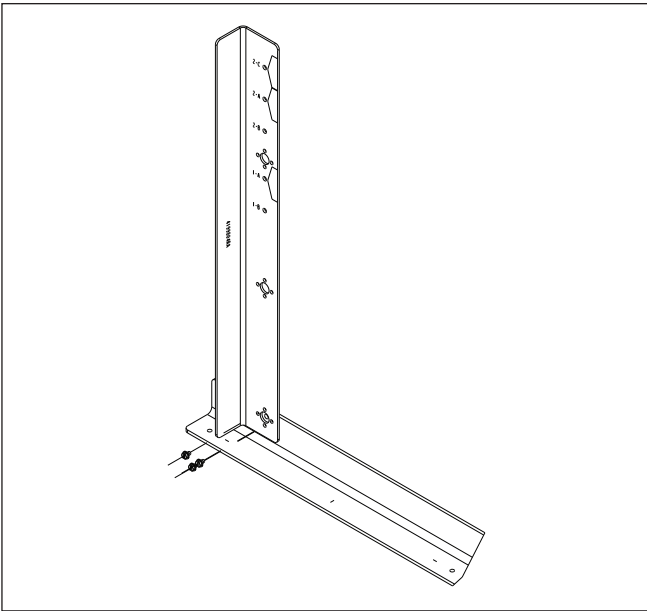

Figure 5: Attach Jigs Vertically
- b. Attach the jigs with the supplied thread-forming screws (HC-3601959). This sets the vertical spacing of the horizontal wall angle. Refer to **Figure 5**.
- b. Attach the jigs with the supplied thread-forming screws (HC-3601959). This sets the vertical spacing of the horizontal wall angles. Refer to **Figure 5**.